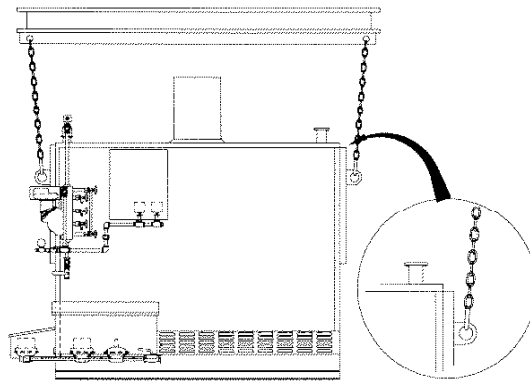

Figure 1 (Steam boiler shown)
2. Offload the boiler as shown in figure 1 :